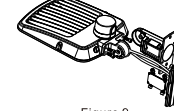

Figure 9
- Step 1: Remove the bracket mounting screws on the fixture, open the side lid of bracket and run the wires through the bracket. (Figure 9)